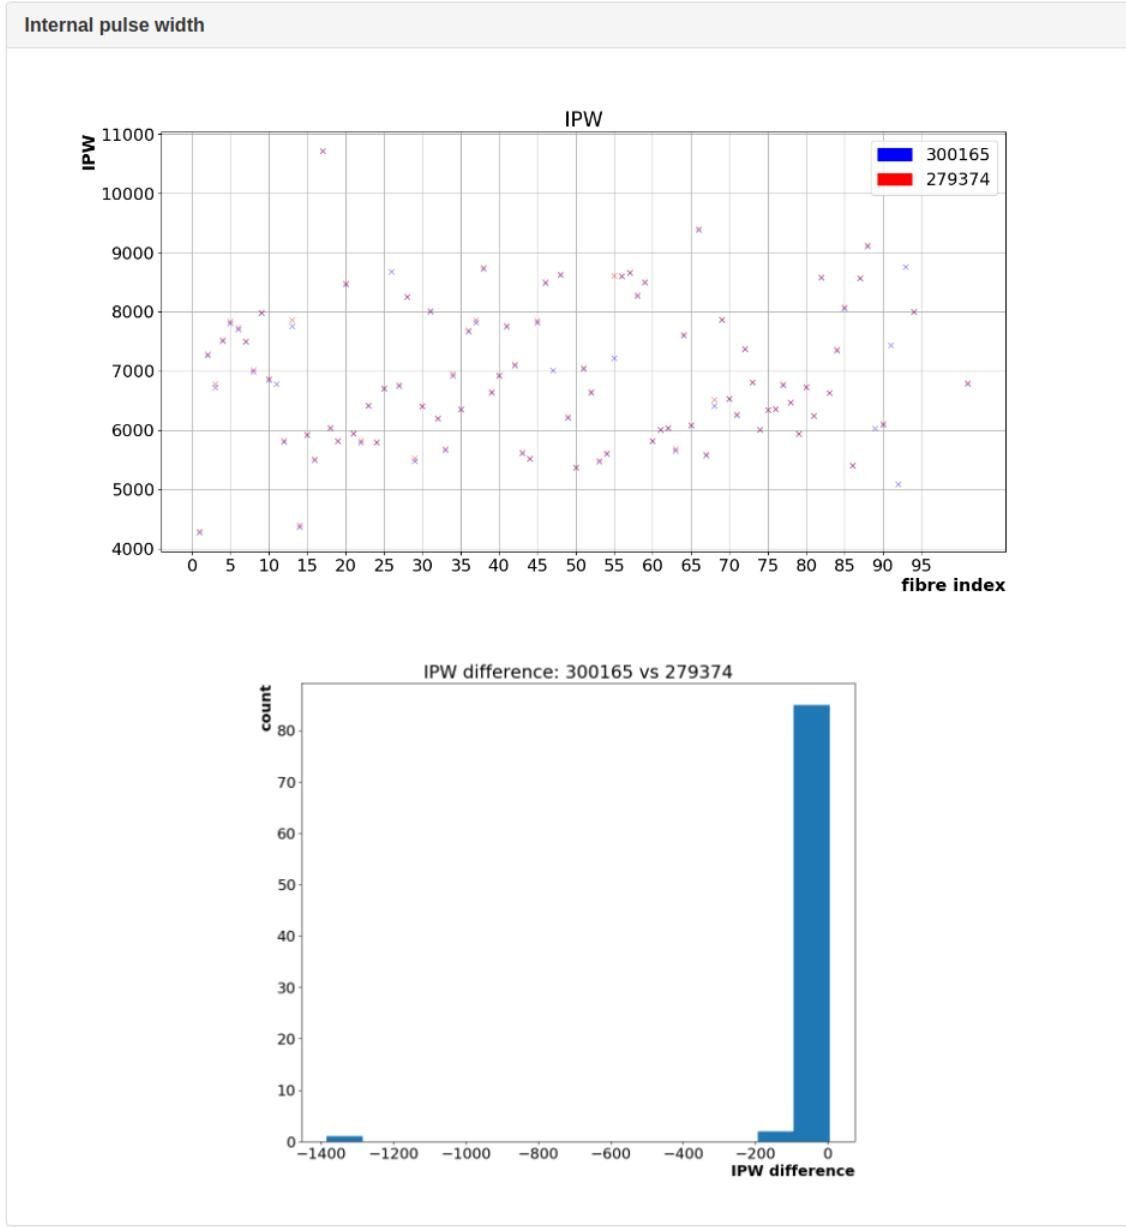

Figure 34: Minard: PCA table for one dataset.
- The 'PCA table' cell will show a page comparing the PCA table associated with that dataset to previous PCA table. Figures 34, 35, 36, and 37.